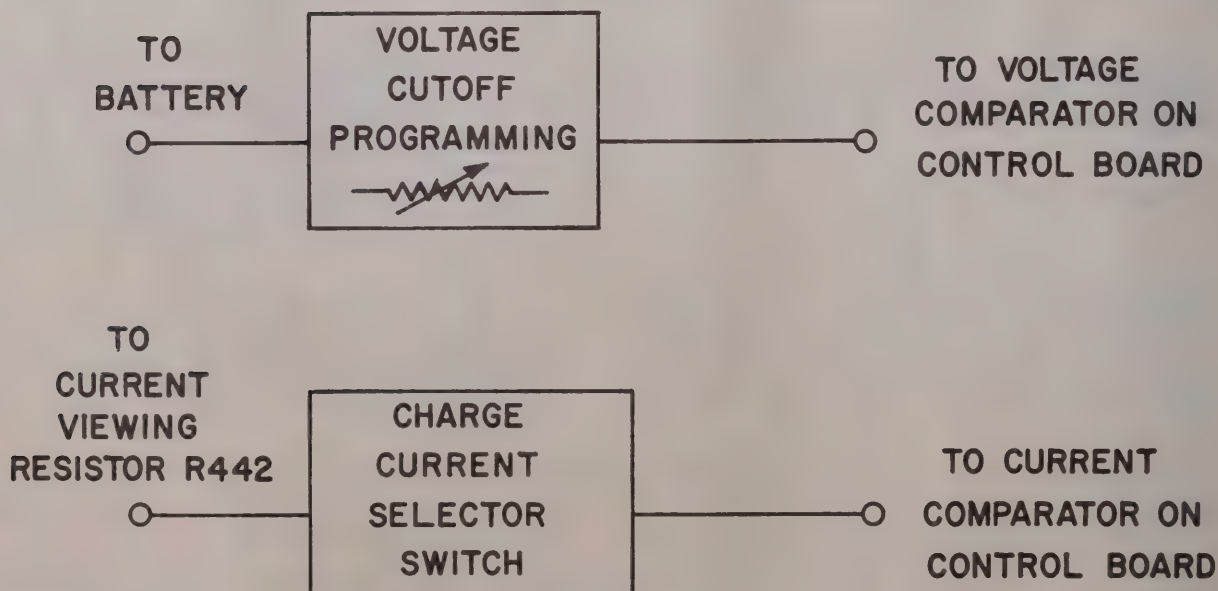

Figure 4-4. Simplified Schematic; One Channel of Master Board
(1) The master board contains the switches and programming resistors which establish desired voltage and current limits for charging. Figure 4-4 is a simplified diagram depicting the function of a single channel of the master board. Complete circuit details for the master board are contained in figure 5-3.
(2) Prior to initiation of a charge, the channel is set to the desired cutoff voltage by properly setting the voltage cutoff switches on the front panel. This action connects the battery to the voltage comparator on the control board through a programming resistance for comparison with a reference potential. Similar programming resistances are connected when the desired charge current is selected.